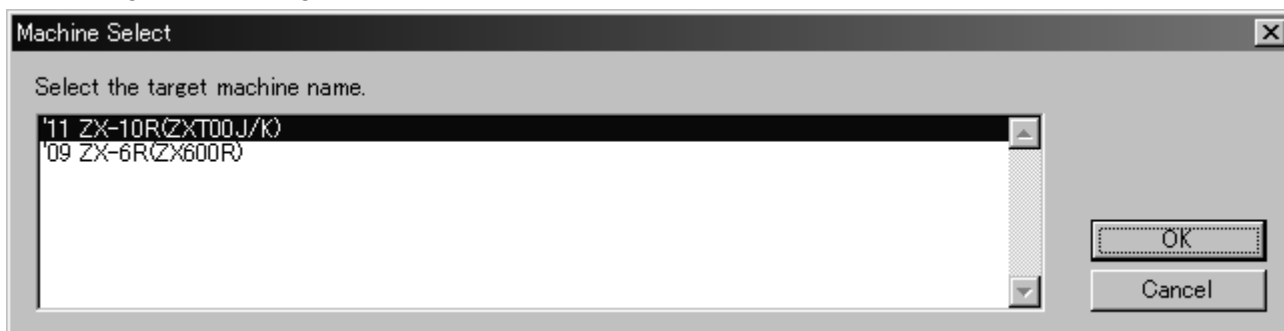

Fig. 115 Machine Select Dialog
You can change the editing data according to the target machine. To change the target machine, go to the pull down **Set** menu and click **Machine Select**. Then the Machine Select dialog shown in Fig.115 appears.
- *Selecting Cancel in the Fig.115 or Fig.116 cannot execute the machine changing.*